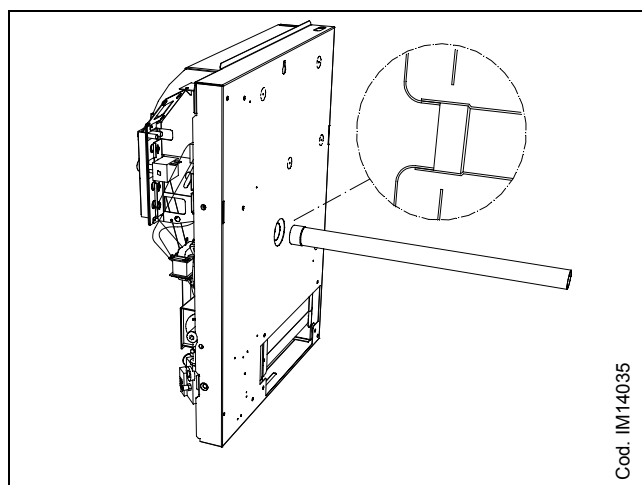

Figure 14 - POSITIONING OF FUME EXHAUST PIPE
10. Fix the fume exhaust flue end (diameter 35 mm) on the unit stub pipe (see Figure 14).